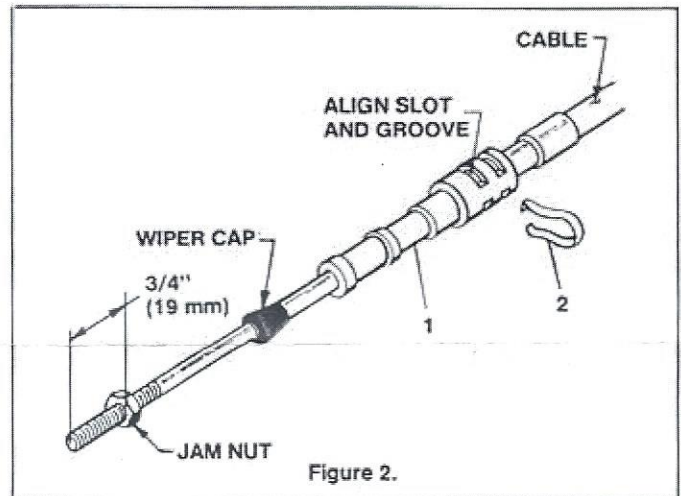
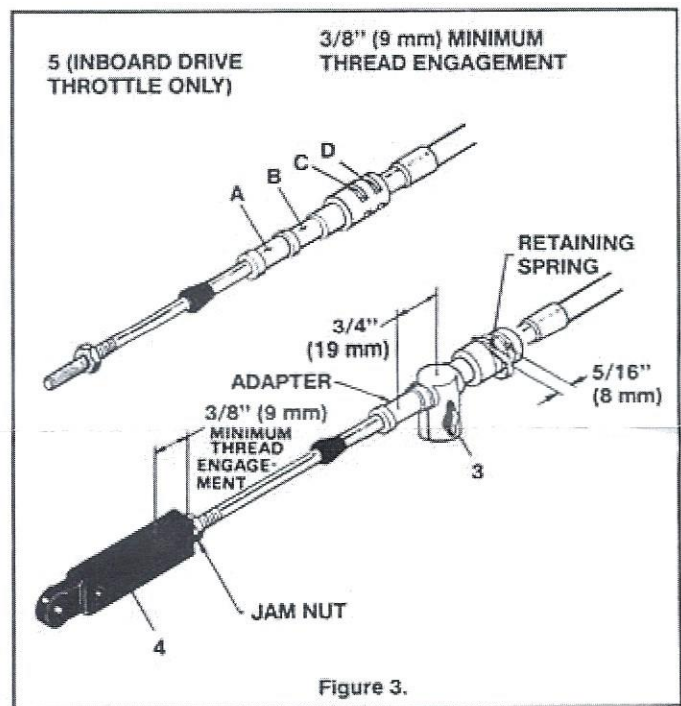

Figure 2.
Figure 3.
**Step 2.** Slide one Adaptor (item 1) over engine end of each cable until slot in Adaptor hub is aligned with groove in cable end fitting, as shown in Figure 2. Insert Retainer Spring (item 2) into slot as shown, and snap into place. Use position "C" for 1978 model year engines, with the exception of Shift for 40 H.P. outboard. In this case, the Spring should be a position "D" (See Figure 3). For other model year engines, consult the manufacturer's manual for cable travel dimensions. Make sure Retainer Spring is fully seated locking Adaptor securely to cable.
**Step 3.** Place an Anchor Nut (item 3) over undercut "B" as shown in Figure 3. Press firmly on Anchor Nut to snap it into position. Replace wiper cap over swivel tube as shown.
In order to meet the proper dimensional requirements specified by the motor manufacturer for different installations, a number of adjustments are possible (See Figure 3). The Anchor Nut may be placed in one of the two grooves in the Adaptor, providing an adjustment of 3/4" (19 mm).